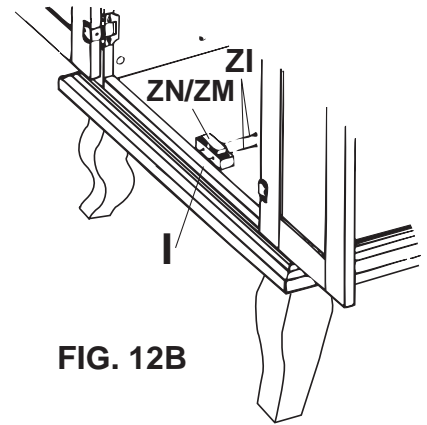

FIG. 12B
Repeat process with a second Double Magnetic Catch (ZM) on the lower Sleeper (I). See FIGURE 12B.